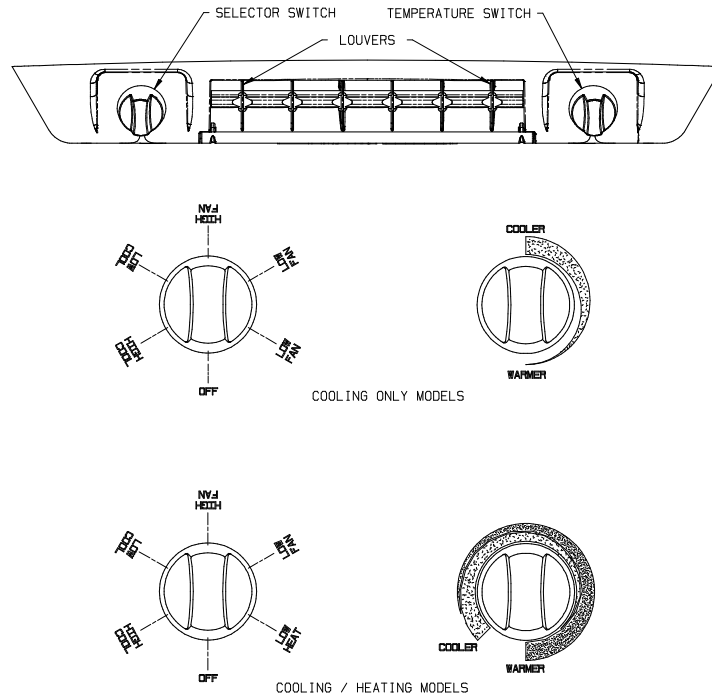

FIGURE 1
- A. The Selector Switch – The selector switch determines which mode of operation the air conditioner will be in. By rotating the selector switch, the operator can obtain any system function desired. System functions vary depending upon options of both the roof top unit and ceiling assembly. Figure 1 shows selector switch location and lists all available functions by model.
For “Heat/Cool models, the thermostat also controls the “ON” and “OFF” temperature settings of the heater assembly (See Figure 1).
- I. For Cooling (Refer to Figure 1, page 3).**
IV. For Heating (“Elect-A-Heat” Ceiling Assembly Model Only) Refer to Figure 1, page 3.
V. For Air Circulation Only (Refer to Figure 1, page 3).